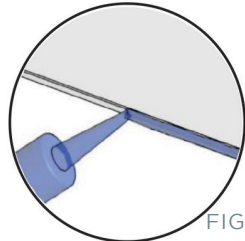

FIG.24
- Remove shelf and put a thin bead of adhesive down both edges of shelf (FIG 24).